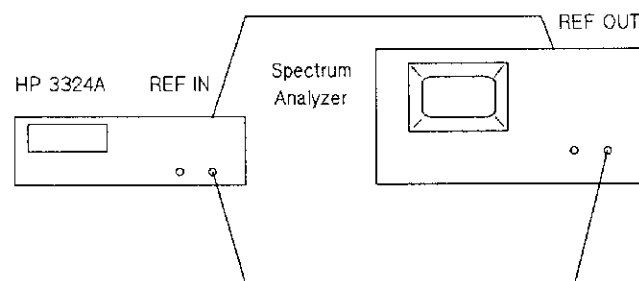

Figure 12-2. Mixer Spurious Test Set-Up
1. Connect the HP 3324A signal output to the spectrum analyzer 50Ω (RF) input and the HP 3324A EXT REF input to the analyzer 10 MHz reference output, as shown in Figure 12-2.